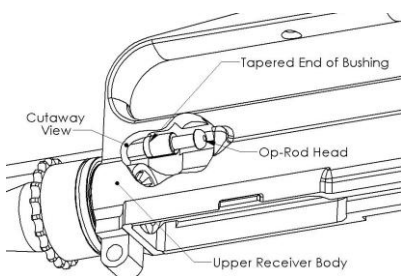

Fig. 2 – Bushing Installation
- Step 7** – Insert the tapered end of the receiver bushing into the counter-bore of the upper receiver and press straight until it stops. The Op-Rod may be temporarily inserted as shown in Fig. 2 to align the bushing.